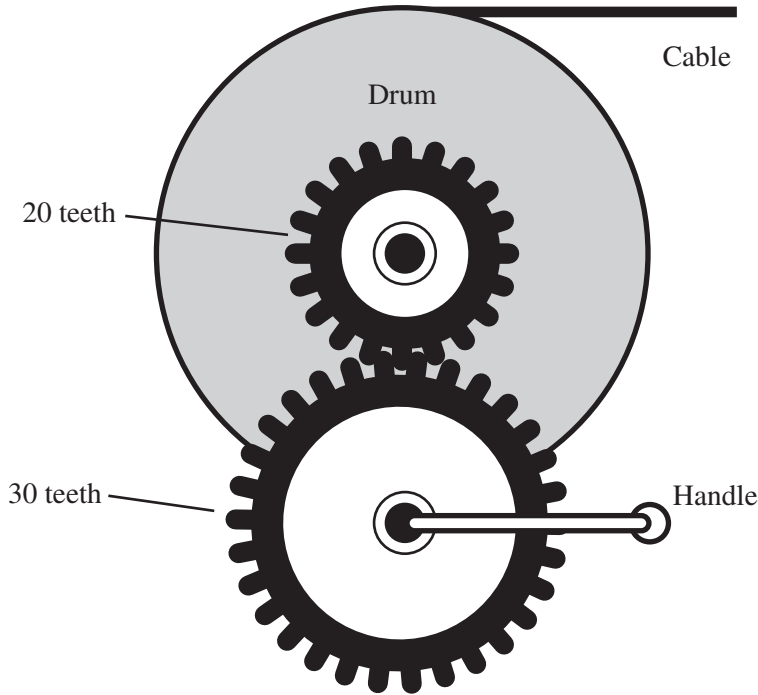

Fig. 5
6 Fig. 5 shows a mechanism for winding a cable on to a drum. The drum is turned by a system of gears using the handle as shown.
- (a) (i) Mark on Fig. 5 the direction in which the handle should be rotated in order to wind the cable on to the drum. [1]